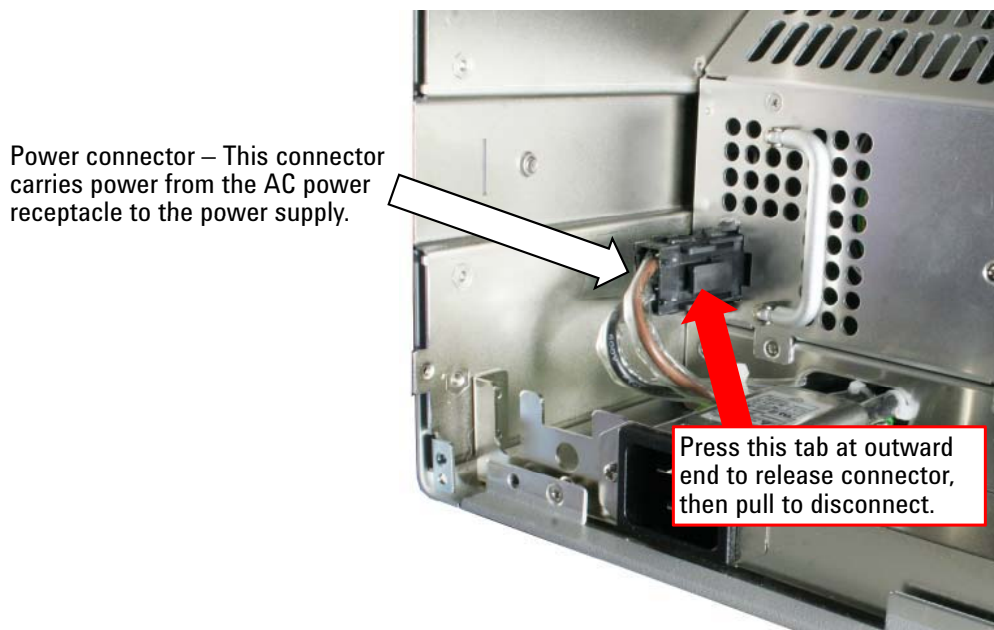

Figure 85 Remove the power supply connector
- 5 Next, the AC power connector to the power supply is removed. To remove this connector, press in on the tab shown in Figure 85 and pull the connector from the power supply.
- c Reconnect the AC power connector shown in Figure 85. Push firmly and ensure that you hear an audible click upon insertion.